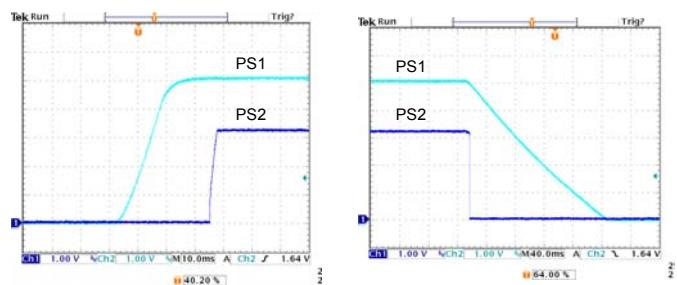

Figure 40: Sequential
Option code C: Implementation of advanced power tracking techniques is based on connecting the power good signal or selecting proper value for external resistor R1 (Figure 40 to Figure 43).
Sequential start-up (Figure 40) is implemented by connecting the power good pin of PS1 to the TRACK pin of PS2 with a resistor–capacitor (RC) circuit. Suggest to use 1 μ F ceramic capacitor and 2K Ω resistor here. Besides, this configuration requires PS1 to have a power good function.